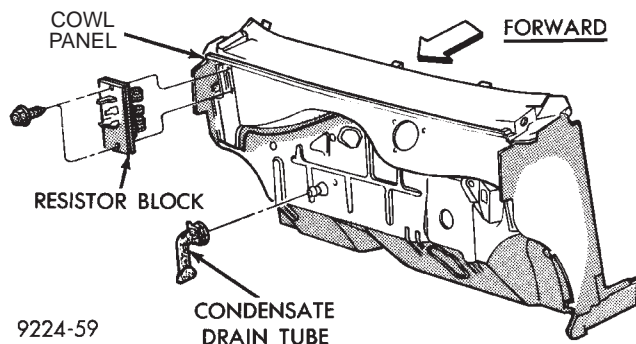

Fig. 2 Resistor Block Removal or Installation
(1) Open hood.
(2) Locate and remove the wire connector from the blower resistor block. Block is located at the back of the engine compartment on the passenger side of the vehicle (Fig. 2).